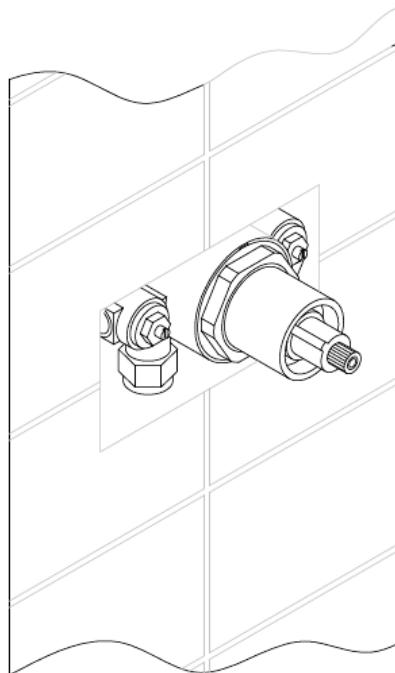

Fig 2
10. Re fit the chrome sleeves to the shower body. Please tile up to the valve as in fig 2.